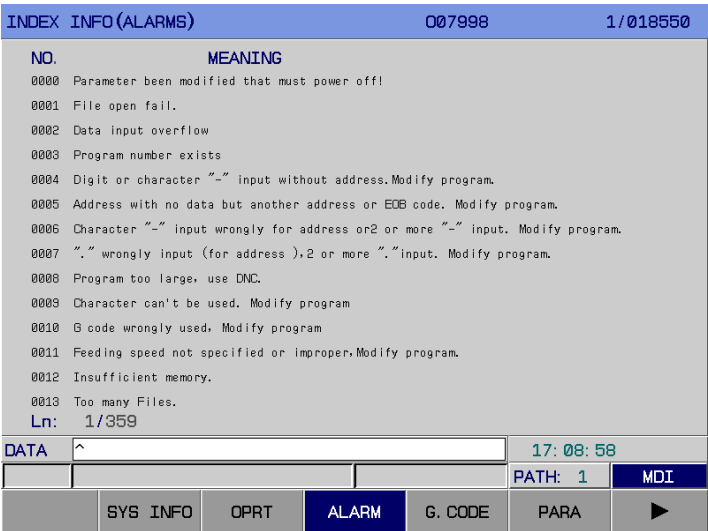

Fig. 3-9-3
3. **ALARM** page In <HELP> page, press soft key **【ALARM】** to enter this page. See fig. 3-9-3: